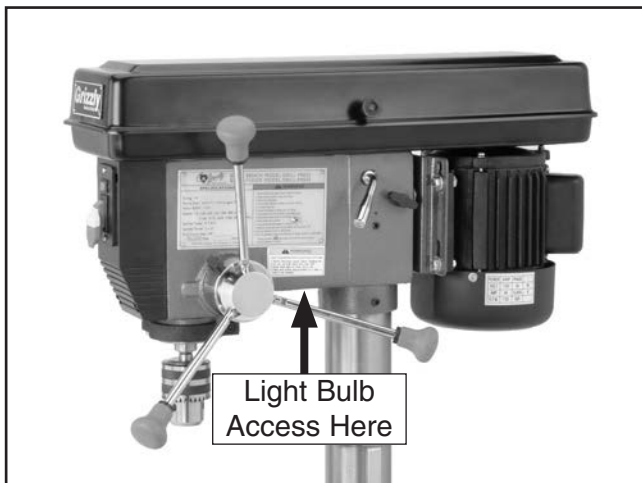

Figure 19. Light bulb access location.
2. Install a 60W or smaller light bulb in the location shown in **Figure 19**.